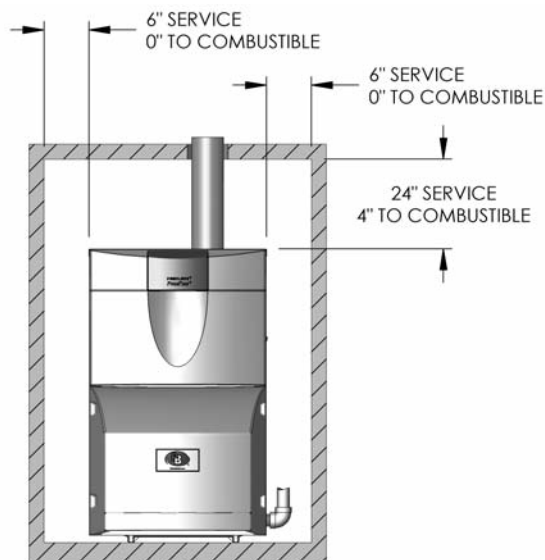

Figure 1.1: Clearances to Combustible Construction & for Service Accessibility
3. The WB90™ boiler is certified for closet installations with clearances as shown in Figure 1.1. In addition, it is suitable for use on combustible flooring, if a metal drip pan is positioned under the boiler. DO NOT INSTALL THIS APPLIANCE ON CARPETING.
4. Figure 1.1 shows the minimum recommended clearances to allow reasonable access to the boiler for inspection and maintenance. However, local codes or special conditions may require greater clearances.